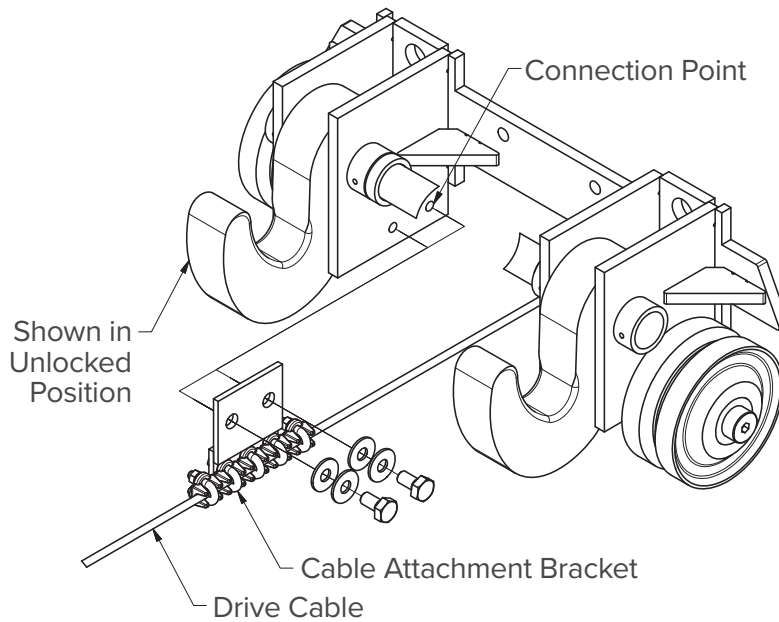

Figure 20
3. **Fasten the Cable Attachment Brackets to the Gate Assemblies** (Figures 20 and 21). Ensure both Gate Halves are fully open and resting against rubber bump stops. Following the Manual Operation instructions (p. 29), disengage the Capstan Drive and crank the cable assembly by hand until the Cable Bracket aligns with the mounting holes on the Pin Side Gate Half, fully tighten hardware. Now, slide the loosely installed Hook Side Cable Bracket (Step 5, p. 21) to the Hook Side Gate Half mounting holes and attach. Fully tighten all hardware including wire rope clamps. If power is not available at the time of assembly, follow the manual unlock procedure before manually closing the gate.